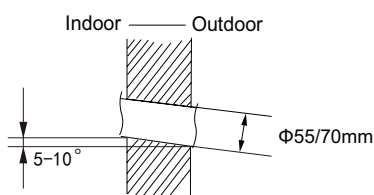

Fig.2
(2) Open a piping hole with the diameter of $\Phi 55/70\text{mm}$ on the selected outlet pipe position. In order to drain smoothly, slant the piping hole on the wall slightly downward to the outdoor side with the gradient of $5-10^\circ$.(As show in Fig.2)